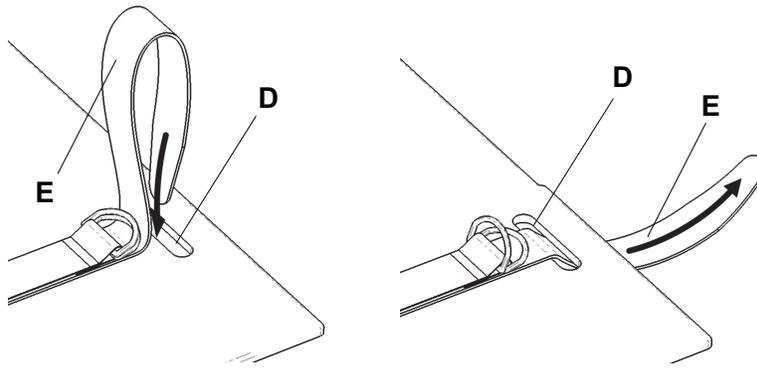

Figure 4 – Insert tie down straps
8. Thread the tie down strap (E) through the Fowler backrest hole (D) (Figure 4).